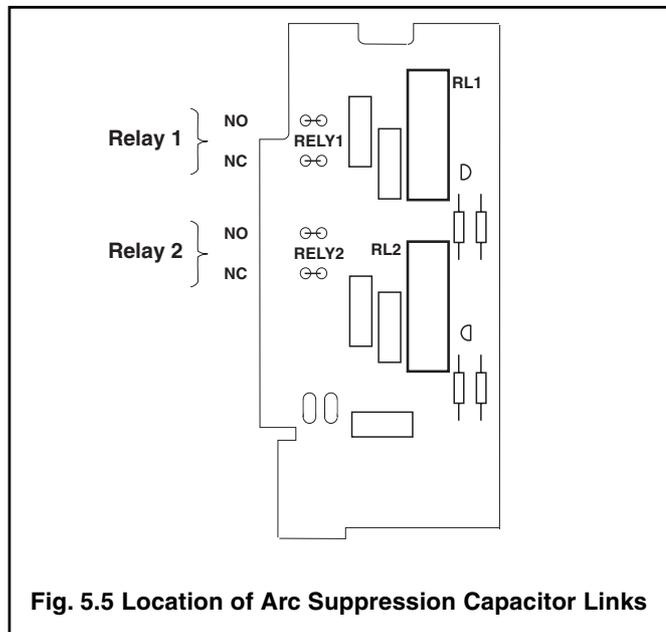

Fig. 5.5 Location of Arc Suppression Capacitor Links
5.4.2 Arc Suppression Capacitors – Fig 5.5